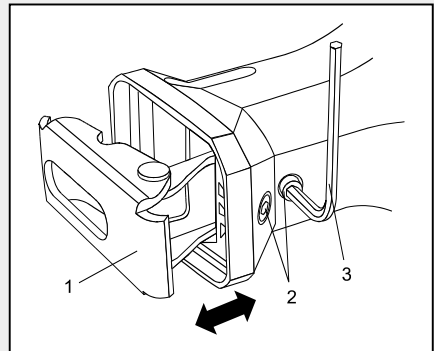

Fig. 2
1. To adjust the pivoting shoe (1), loosen the two pivoting shoe hex screws (2) on the lower side of the saw using the 4 mm hex key (3) supplied (see Fig. 2).